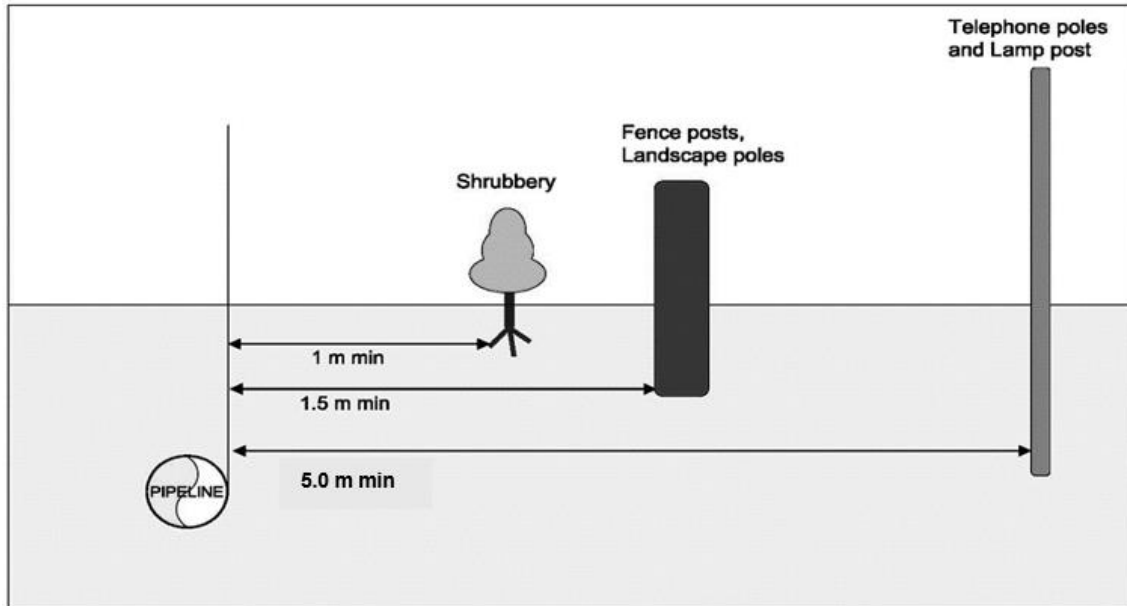

Figure 7: Minimum clearance of landscape fixtures from the pipeline
- Minimum clearance distance of 1 m (3 ft). See *Figure 7* below.